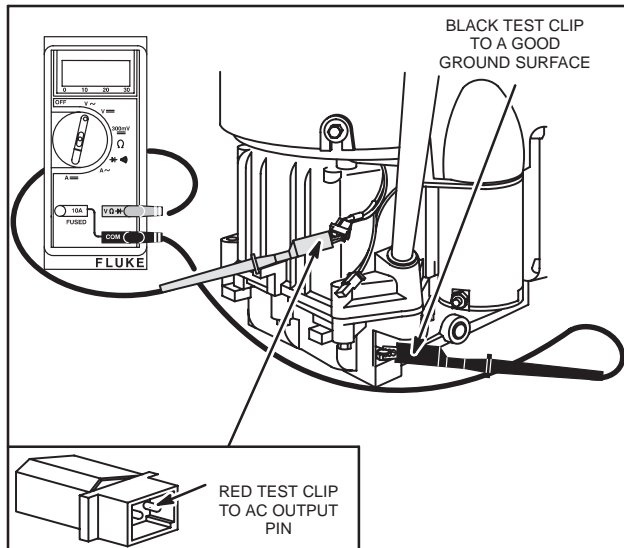

Fig. 15 – Testing AC Output
- Attach RED test lead clip to AC output terminal, Fig. 15.